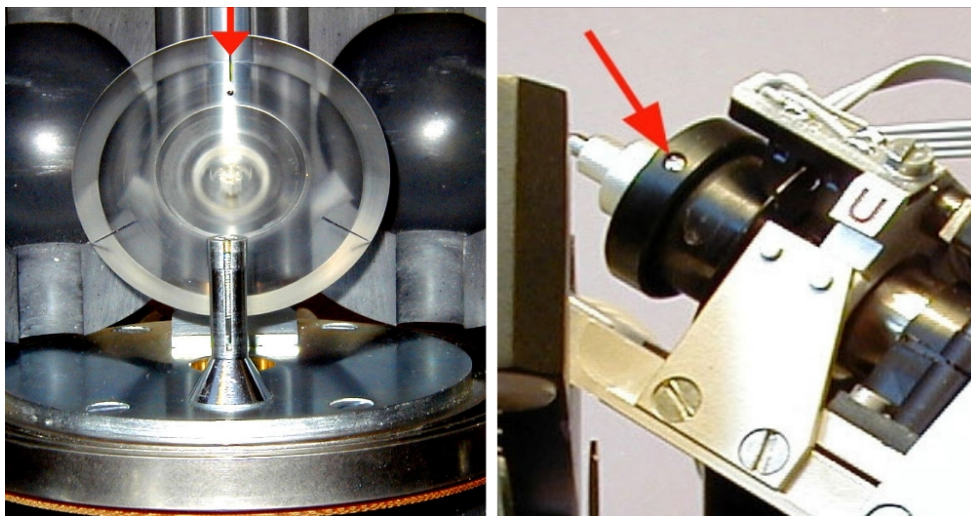

Figure 18: Setting of holder azimuthal position
- Press the **TURN** button three times and check if the mark on the tool is aligned with the axis of column supporting the coils, as seen in Fig. 18, left.
- To adjust hexagonal key position locate the black screen with three slots and loosen a little bit a screw marked by red arrow in Figure 18, right. Use the screwdriver of proper size not to damage the screw.